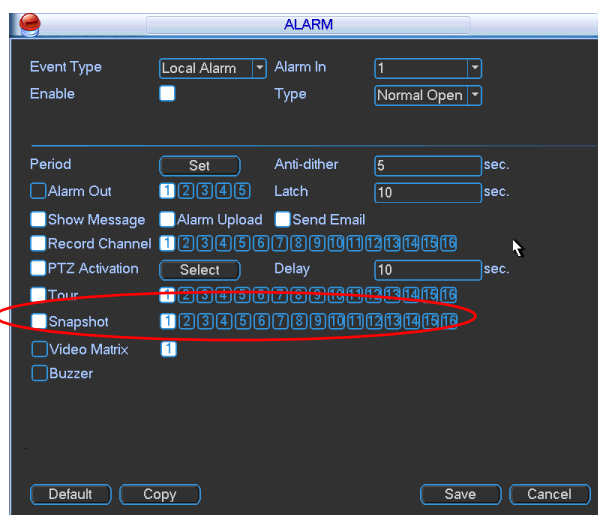

Figure 4-22
- In Encode interface, click snapshot button to input snapshot mode, size, quality and frequency. See the interface on the left of Figure 4-22.
- In Detect interface please enable snapshot function for specified channels (interface in the middle of Figure 4-22). Or in alarm interface (interface on the right of Figure 4-22) please enable snapshot function for specified channels.
Please refer to the following figure for detailed information. See Figure 4-22.